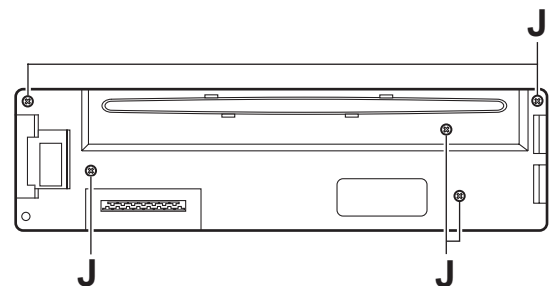

Fig.8
### 3.1.8 Removing the front board (See Figs.8 to 10)
- Remove the five screws **J** on the back side of the front panel assembly. (See Fig.8.)